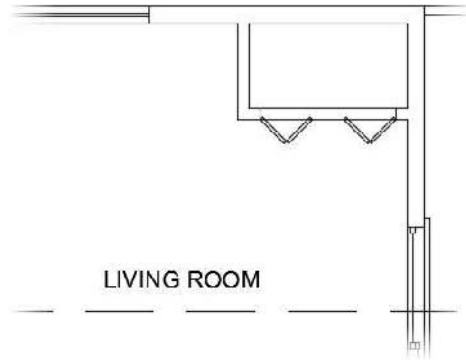

FIGURE 8.24: Location of the $1/4" = 1'-0"$ (1:30) LIVING ROOM text after its location is synchronized
6. Using the Synchronize Multiple-Scale Positions tool, move the $1/4" = 1'-0"$ (1:50) LIVING ROOM text so that it and the $1/2" = 1'-0"$ (1:30) text share the same insertion point (see Figure 8.24).